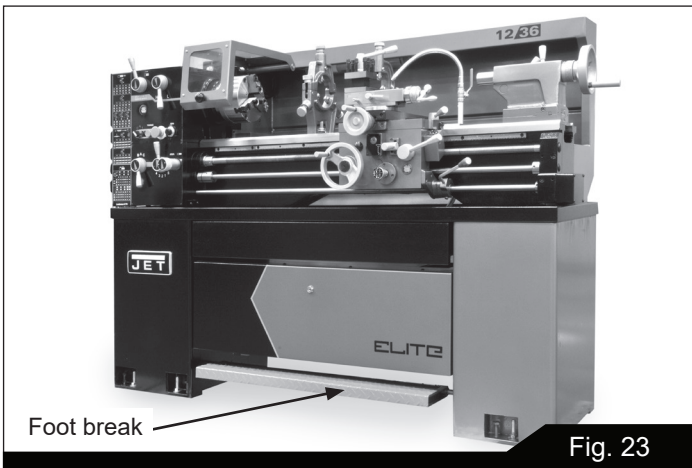

Fig. 23
18. **Foot Brake (Figure 23):** For emergency shutdown of all lathe functions. The connecting rod mechanism is in the bed stand, and activates a brake strap at the main motor. (Caution: Lathe still has power.) The foot brake is not intended for normal stopping of the lathe. Overuse can result in hastened wear of brake parts.